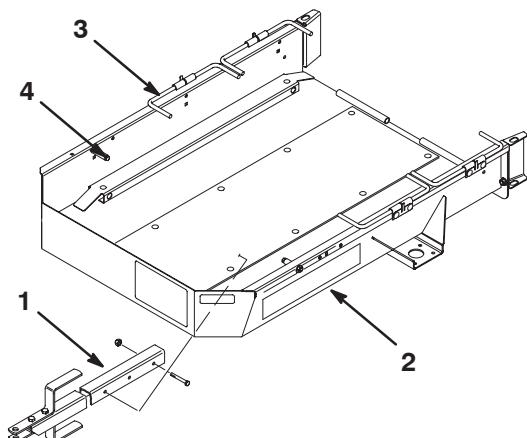

Figure 1
- Mount tongue assembly to mounting bracket on underside of trailer bed with (2) 3/8-16 x 2-3/4" lg. capscrews, spacers, and lock nuts. For most applications, use front set of mounting holes in tongue and bracket (Fig. 1).
3. Remove baskets from greens mower, disengage reel drive and move throttle to slowest position. SLOWLY drive greens mower onto trailer until trailer stops are contacted (Fig. 1).
5. Pivot wheel rods downward over greens mower transport wheels (Fig. 1).